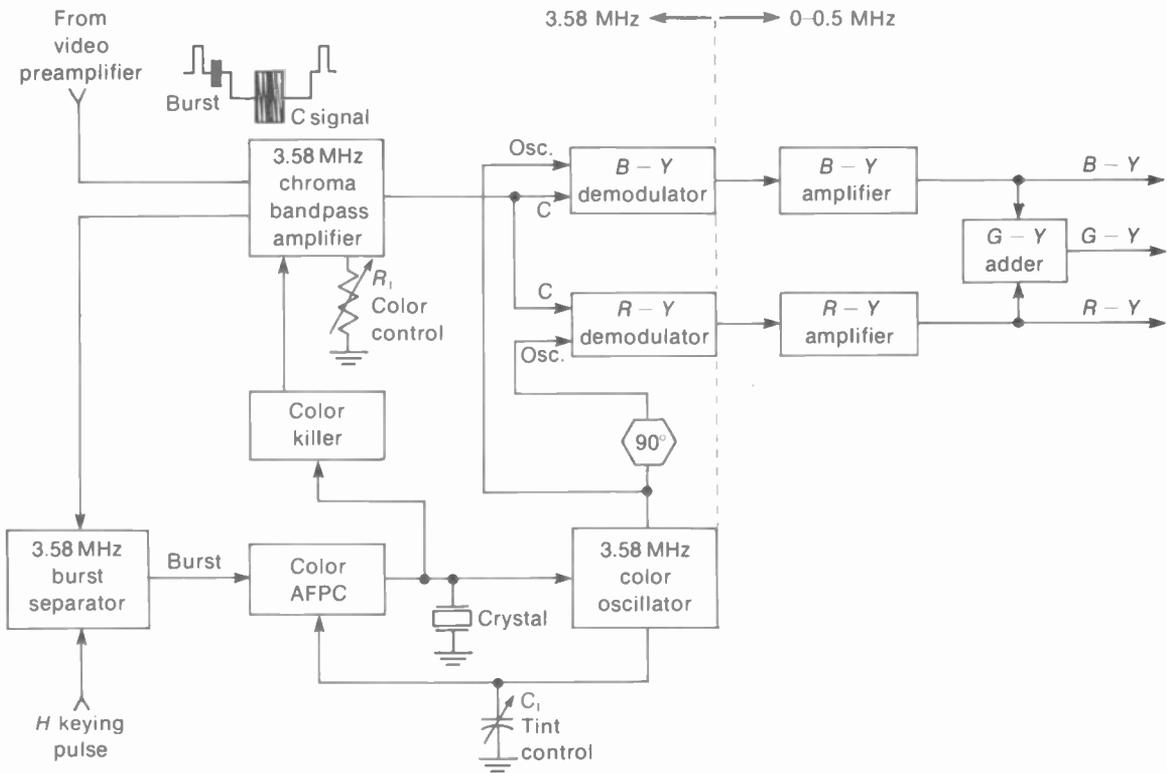

FIGURE 9-3 COLOR CIRCUITS FOR R - Y, B - Y RECEIVER.
Figure 9-1 shows a common chassis layout with the setup adjustments at the back. Most of the receiver is used for a monochrome picture on a white raster. This part includes the circuits for picture and sound signals, the raster, and the power supplies. The 3.58-MHz color circuits are on a separate board at the rear of the chassis. Block diagrams for all these circuits are shown in two separate parts in Figs. 9-2 and 9-3. In Fig. 9-2 the monochrome part illustrates how a black-and-white picture is reproduced on the raster. Figure 9-3 shows details of the 3.58-MHz color circuits. Actually, a white raster is necessary, as a mixture of the red, green, and blue phosphors on the screen of the color picture tube. Furthermore, the Y luminance signal produces a monochrome picture. Then the color circuits can add color to the picture by providing red, green, and blue video signals for the picture tube. More details are explained in the following topics:
FIGURE 9-2 BLOCK DIAGRAM OF COLOR TELEVISION RECEIVER. CIRCUITS FOR COLOR SECTION ARE IN FIG. 9-3. SIGNAL WAVEFORM SHOWN FOR ONE VERTICAL COLOR BAR. AFT IS AUTOMATIC FINE TUNING. AFPC IS AUTOMATIC FREQUENCY AND PHASE CONTROL. ADG IS AUTOMATIC DEGAUSSING.
More details of the color section of the receiver are shown by the block diagram in Fig. 9-3. Color receivers are generally classified accord-
For matrixing in the picture tube, the  $R - Y$ ,  $B - Y$ , and  $G - Y$  signals are fed to each of the guns, with the Y signal to all three. This method is generally used with vacuum tubes in the color circuits. It is classified as an  $R - Y$ ,  $B - Y$  receiver, which assumes there is  $G - Y$  signal also. Figure 9-3 illustrates this type.
**Input signal to the color section.** We can start with the C signal from the video preamplifier in Fig. 9-3. This signal is taken off before the delay line for the Y video amplifier. The wave-shape shown here includes the 3.58-MHz C signal and the color sync burst. We cannot see the hue of the C signal because the phase angle with respect to burst phase is not evident. If the C phase is the same as burst phase, the hue of the color in the C signal will be yellow-green. The amplitude of the C signal indicates the color saturation.
**Color demodulators.** The demodulators in Fig. 9-3 detect *R - Y* and *B - Y* color video signals because these two phases are provided by the output of the 3.58-MHz color oscillator. With *C* signal input and *B - Y* phase of oscillator voltage into the *B - Y* demodulator, the detected output is *B - Y* video signal. Similarly, with *C* signal input to the second demodulator and *R - Y* phase of oscillator voltage shifted 90° from *B - Y* phase, the detected output is *R - Y* video signal.
The color control varies the amplitude of 3.58-MHz chrominance signal voltage, usually adjusting the gain of the chrominance bandpass amplifier. As a result, the intensity or amount of color in the picture is varied. The color control is also called *saturation* or *chroma*. This is  $R_1$  in Fig. 9-3.
The tint or hue control varies the phase of the 3.58-MHz oscillator cw output with respect to the color sync burst. The control can be in either the oscillator or its AFPC circuit. This is  $C_1$  in Fig. 9-3.